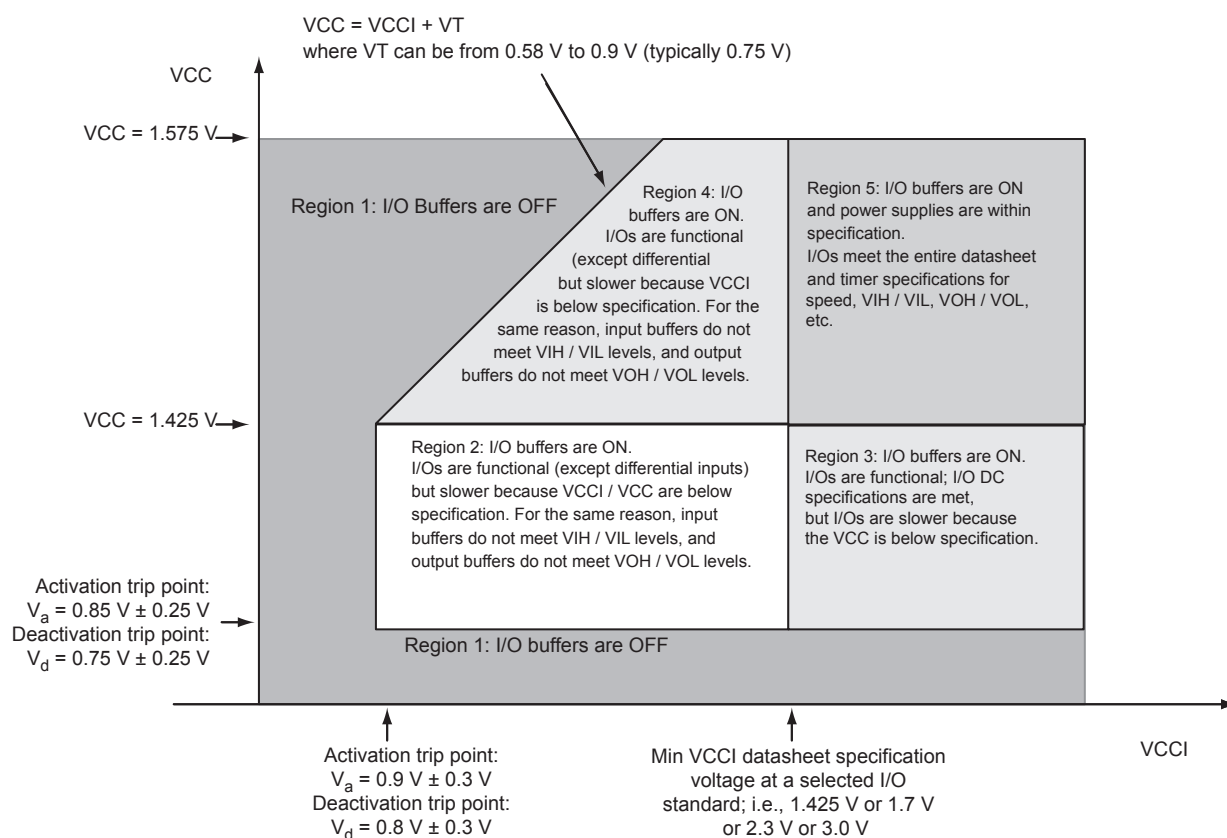
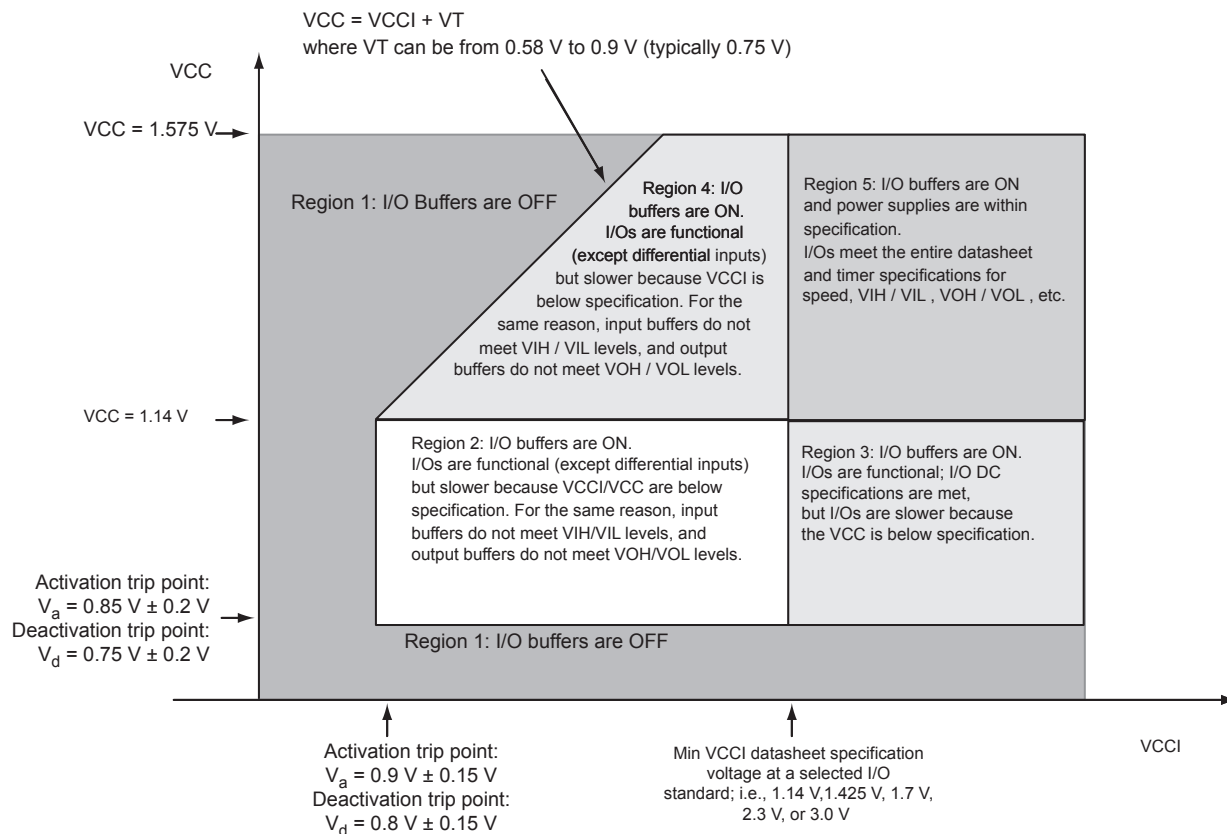

Figure 2-1 • V5 Devices – I/O State as a Function of VCCI and VCC Voltage Levels
Figure 2-2 • V2 Devices – I/O State as a Function of $VCCI$ and VCC Voltage Levels
Sophisticated power-up management circuitry is designed into every ProASIC3 device. These circuits ensure easy transition from the powered-off state to the powered-up state of the device. The many different supplies can power up in any sequence with minimized current spikes or surges. In addition, the I/O will be in a known state through the power-up sequence. The basic principle is shown in Figure 2-1 on page 2-4 and Figure 2-2 on page 2-5.
1. VCC and VCCI are above the minimum specified trip points (Figure 2-1 on page 2-4 and Figure 2-2 on page 2-5).
Microsemi recommends using monotonic power supplies or voltage regulators to ensure proper powerup behavior. Power ramp-up should be monotonic at least until VCC and VCCPLX exceed brownout activation levels. The VCC activation level is specified as 1.1 V worst-case (see Figure 2-1 and Figure 2-2 on page 2-5 for more details).